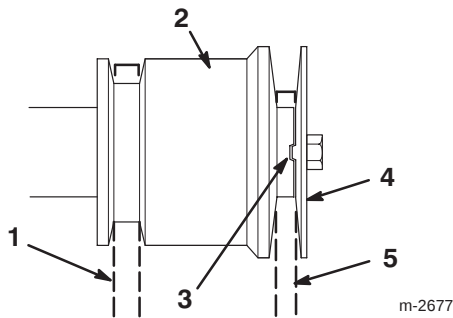

Figure 26
Note: Do not to pinch the traction drive belt (Fig. 26).
15. Install the engine pulley sheave, ensuring that the indexing rib in the engine pulley sheave aligns with the indexing notch in the engine pulley (Fig. 26).
16. Install the washer, lock washer, and crankshaft bolt that secures the engine pulley sheave (Fig. 26).
Note: Do not pinch the auger/impeller drive belt (Fig. 26).
- Note:** Ensure that the indexing rib in the engine pulley sheave aligns with the indexing notch in the center engine pulley. Do not pinch the belt (Fig. 26).